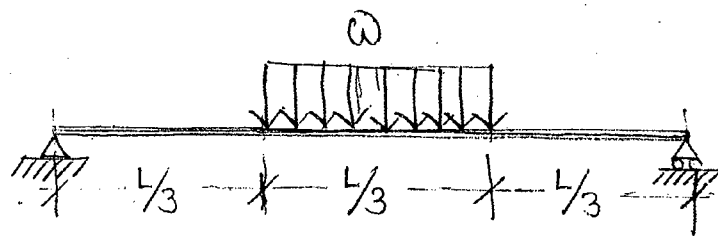

Fig. 5
6. Determine the maximum deflection and maximum rotation of the beam of Fig. 5 consider EI Constant. (14)